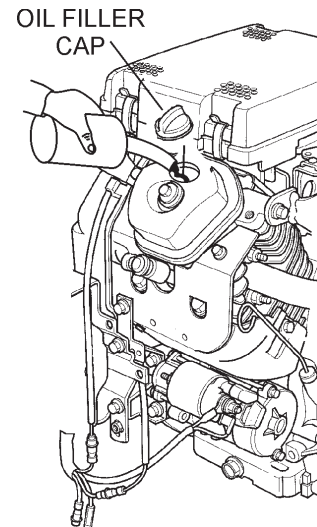

Figure 9. Engine Oil Filler Port
4. If the oil level is low, remove the oil filler cap (Figure 9) and fill to the safe operating level (max) as indicated by the dipstick. Fill with recommended type oil as listed in Table 4. Maximum oil capacity is 1.90 quarts (1.8 liters).